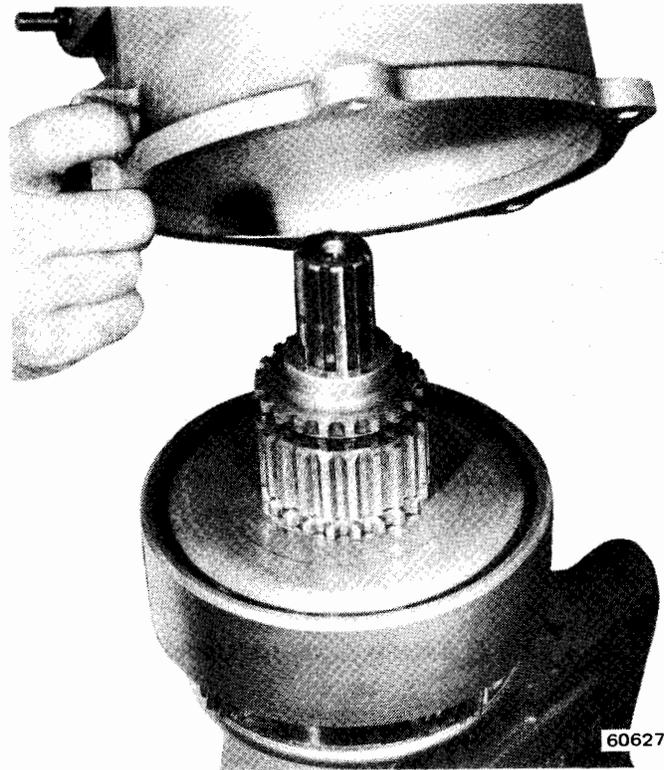

Fig. 8-26 Removing-Installing Housing
(26) Slide assembled parts toward edge of workbench just far enough to expose bore in shift collar hub. Support assembly with one hand and insert main shaft in bore of shift collar hub with other hand. Be sure main shaft and sun gear are fully seated. Install main shaft and sun gear from open end of ring gear.
(27) Hold assembled parts firmly together, lift assembly and place assembly on socket (in vise) used to support reduction unit during disassembly.
(28) Install needle bearing and direct drive sleeve on main shaft.
(29) Align splines on assembled parts and install reduction housing (fig. 8-26). Be sure housing is seated firmly against direct drive sleeve.
(30) Install rear spacer and snap ring. The snap ring is select-fit and is available in thickness ranges of 0.089 to 0.091 inch, 0.092 to 0.094 inch, 0.095 to 0.097 inch, 0.099 to 0.101 inch, and 0.103 to 0.105 inch. Install thickest ring possible to provide 0.004-to-0.009 inch spacer clearance. Be sure snap ring fits securely in groove.
(31) Install power takeoff cover and gasket. Tighten cover attaching screws to 20 foot-pounds torque.
(32) Remove unit from support socket and install pinion cage.
(33) Remove socket from vise.